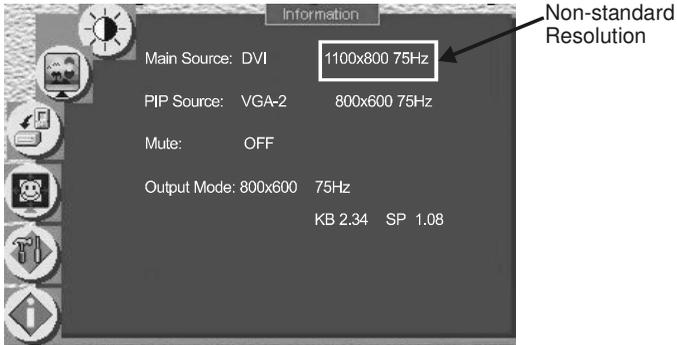

Figure 43: Non-standard Resolution in the Information Screen
8. Open the Information screen and check that the new resolution appears in the Main Source line1 (see Figure 43).